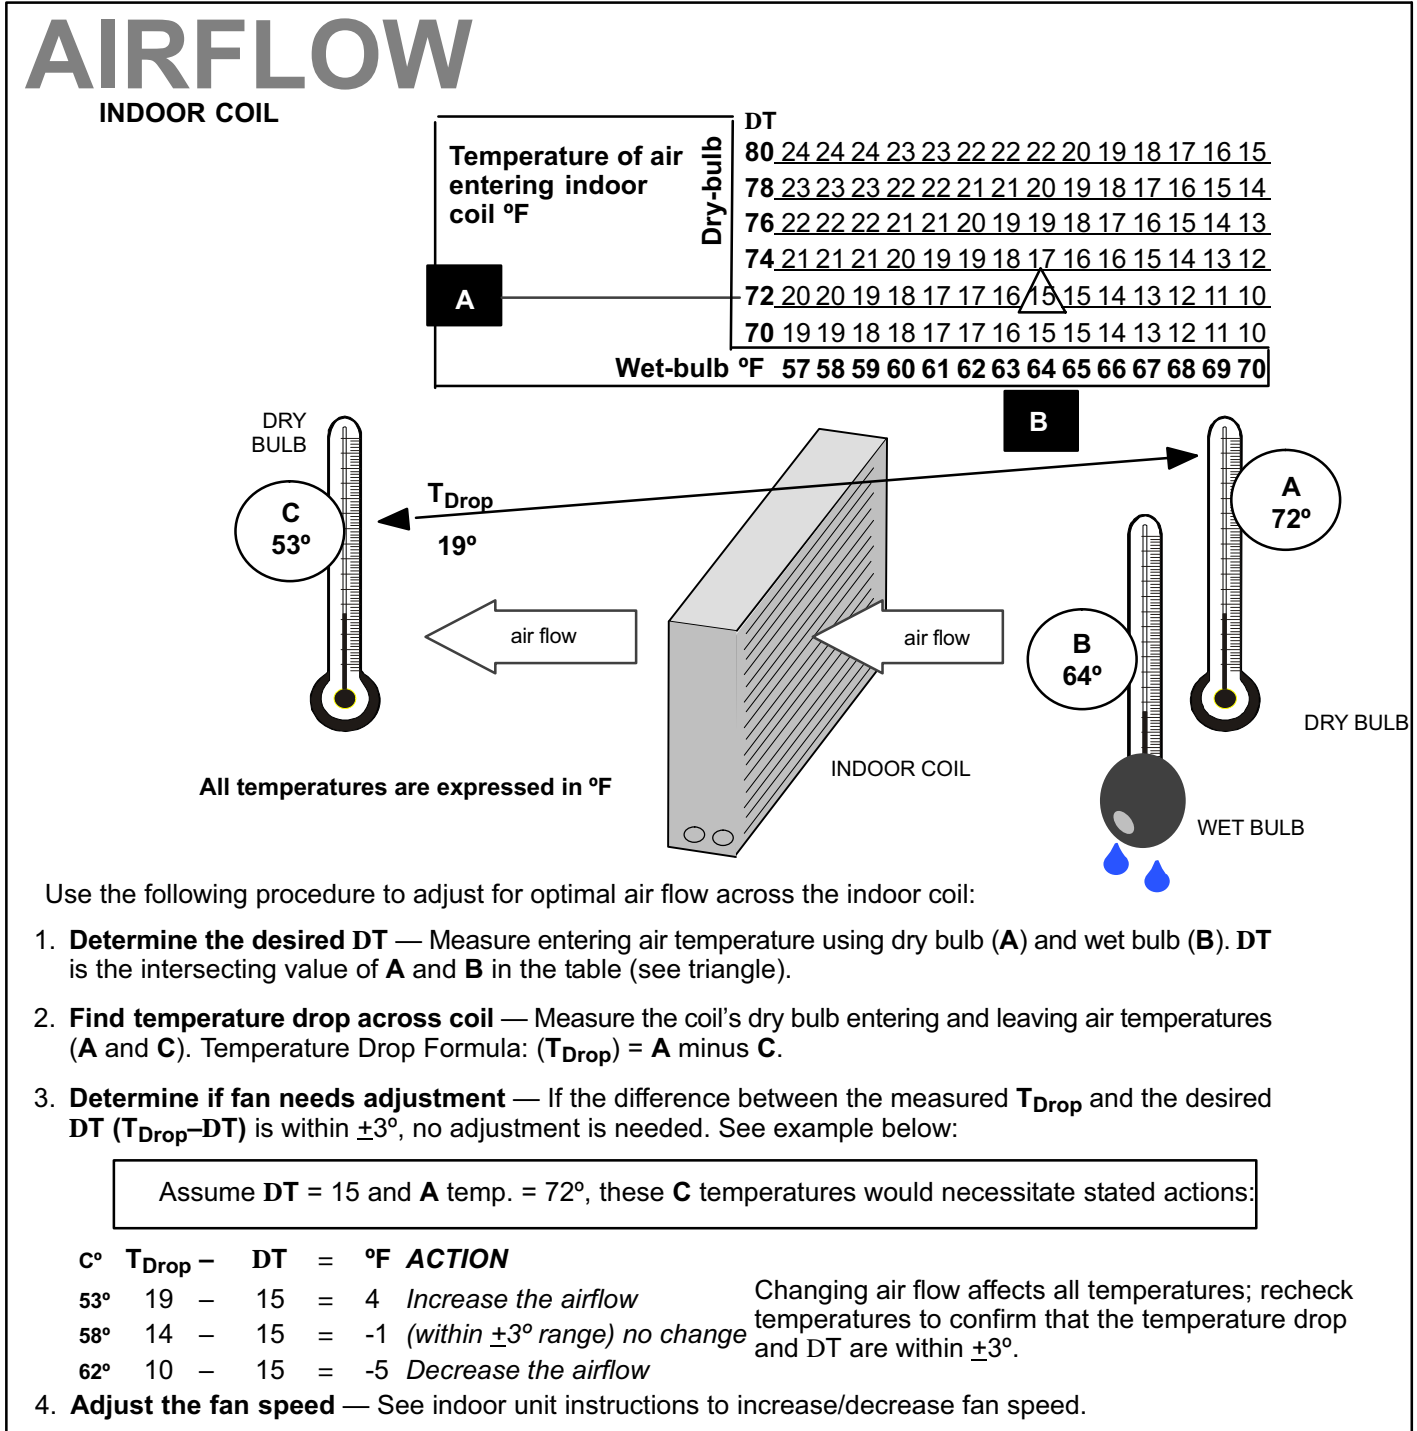

Figure 15. Checking Indoor Airflow over Evaporator Coil using Delta-T Chart
Check airflow using the Delta-T (DT) process using the illustration in figure 15.